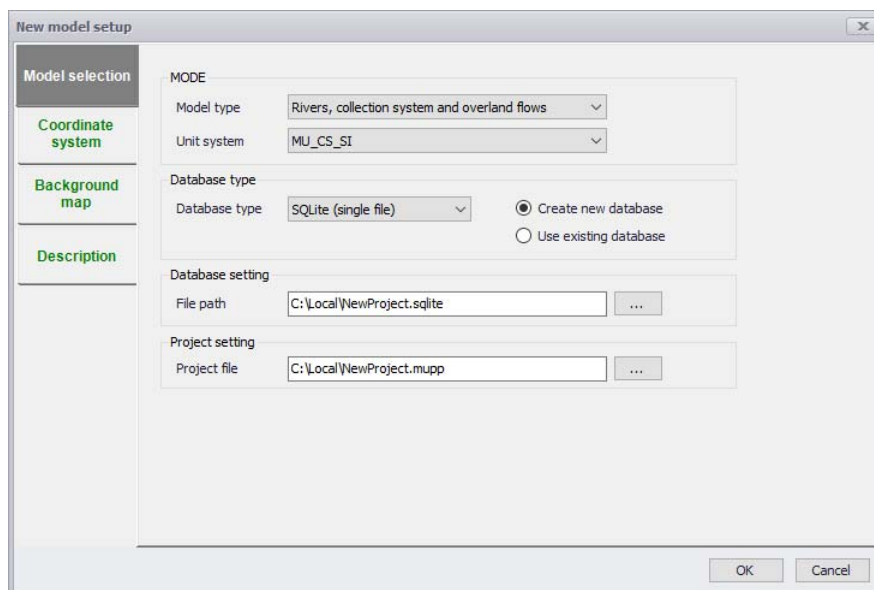

Figure 9.1 Creating a new Rivers, collection system and overland flows project
1. Create a new model by going to File|New and in the dialog that appears, select the model type to be "Rivers, collection System and overland flows". (Refer to Figure 9.1). Note, you can always change your initial choice of mode which activates/de-activates the appropriate menus afterwards.